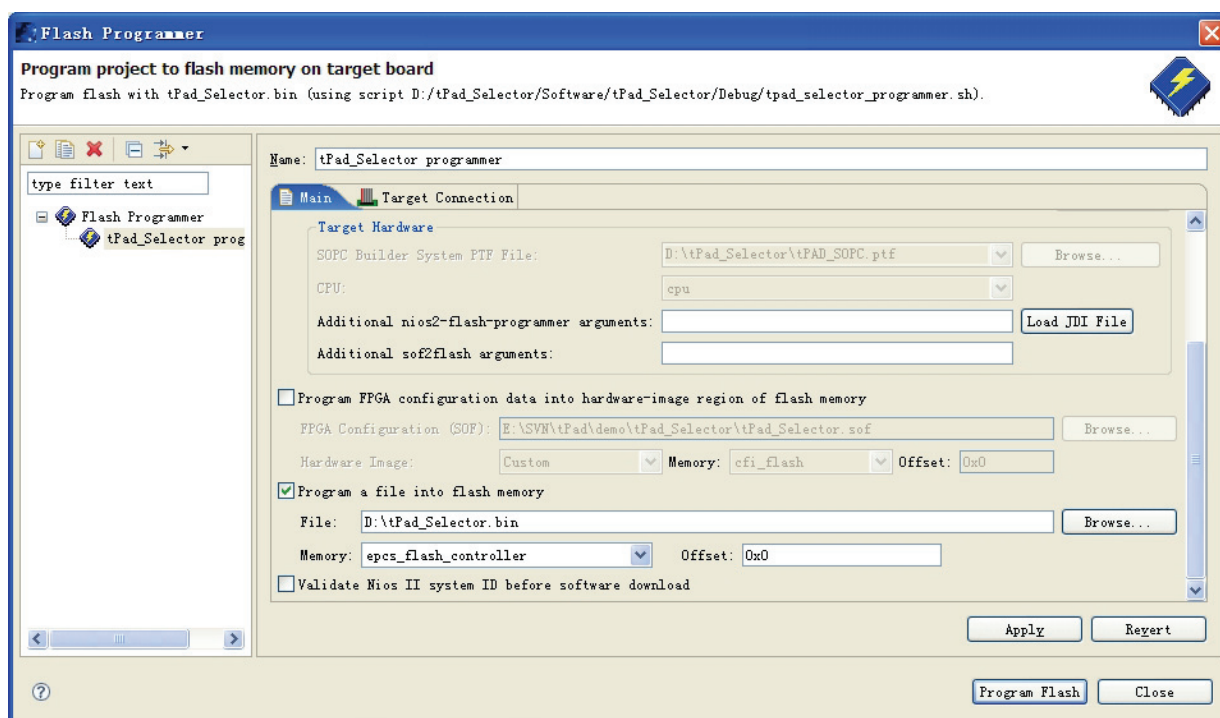

Figure 5-2 Programming Flash settings
- Choose Program a file into memory, choose your tPad_Selector.bin file. See **Figure 5-2**